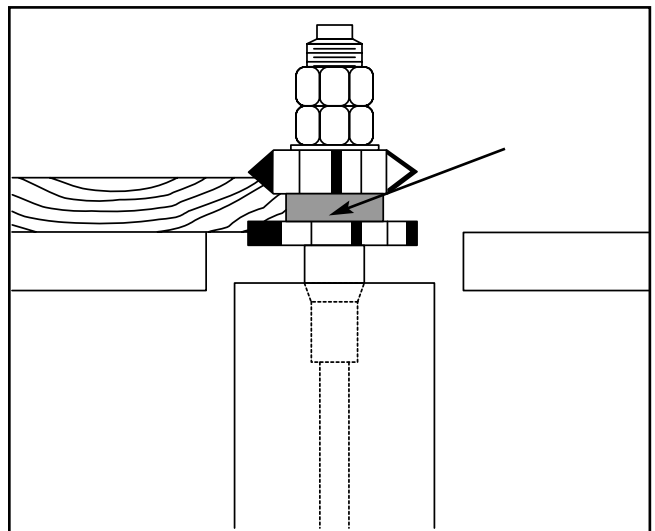

Figure 40. Rub collar between two cutters.
3. **Between two cutters:** Using a rub collar between two cutters, as in **Figure 40**, has the distinct advantage of performing two cuts at once or eliminating the need to change cutters for two different operations. Notice that part of the edge is left uncut. The uncut portion rides on the rub collar.